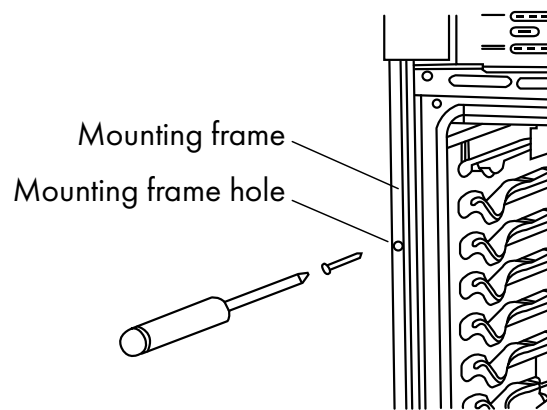

Figure 1
3. Insert the #8–14 x 1" screws (provided) through the pilot holes to securely fasten the oven to the cabinet (Figure 1). Do not overtighten screws.